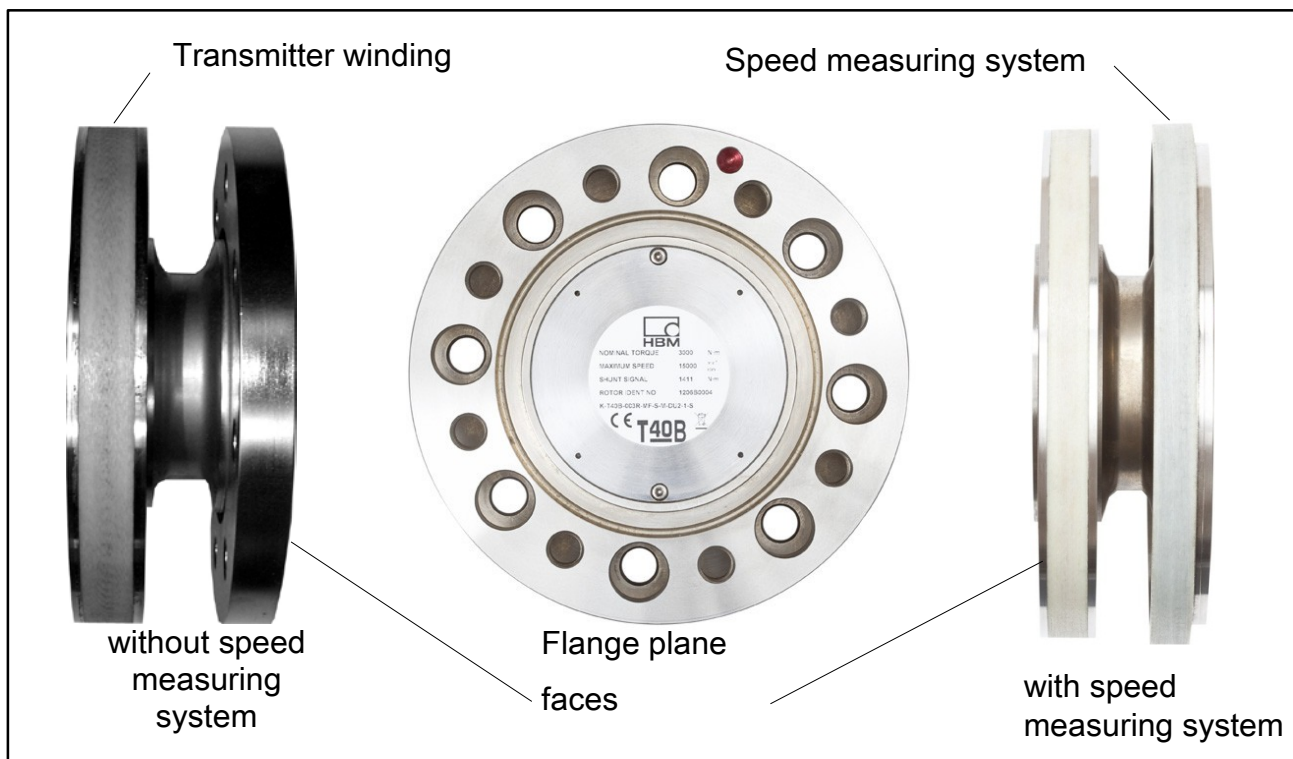

Fig. 5.9: Bolted rotor connection
2. For the bolted rotor connection (see Fig. 5.9), use DIN EN ISO 4762 hexagon socket screws of the property class stated in Table 4.1, in a suitable length (dependent on the connection geometry, see Table 5.1 on Page 17).